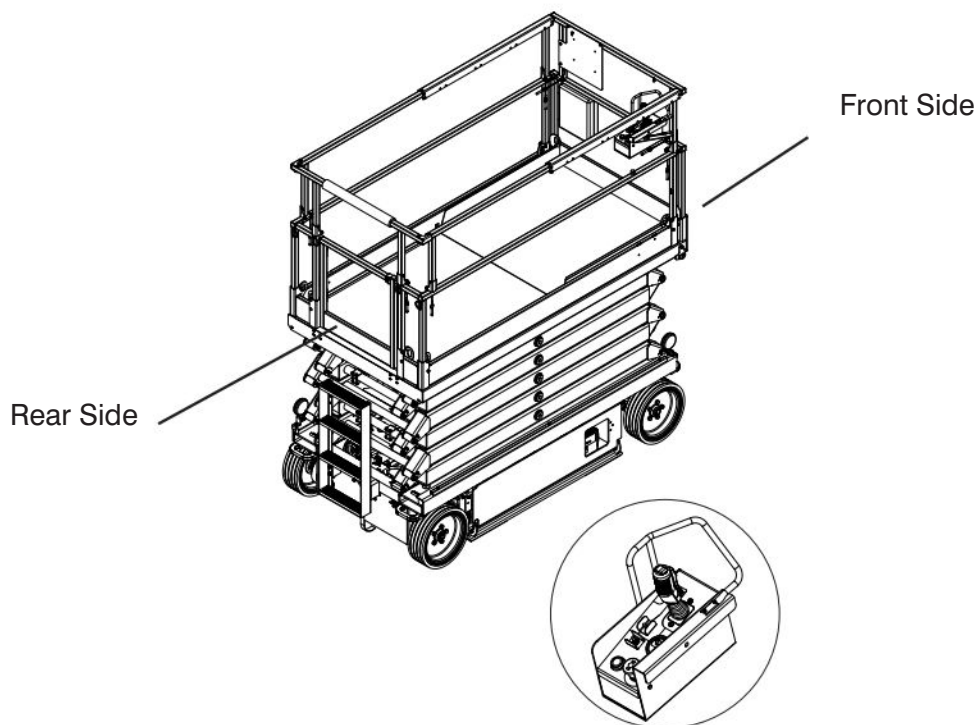

Figure 3-11. Control Box with Long Cable Outside Platform
- Ensure the operator and control box console are properly oriented in the direction the MEWP is facing (see Figure 3-11).